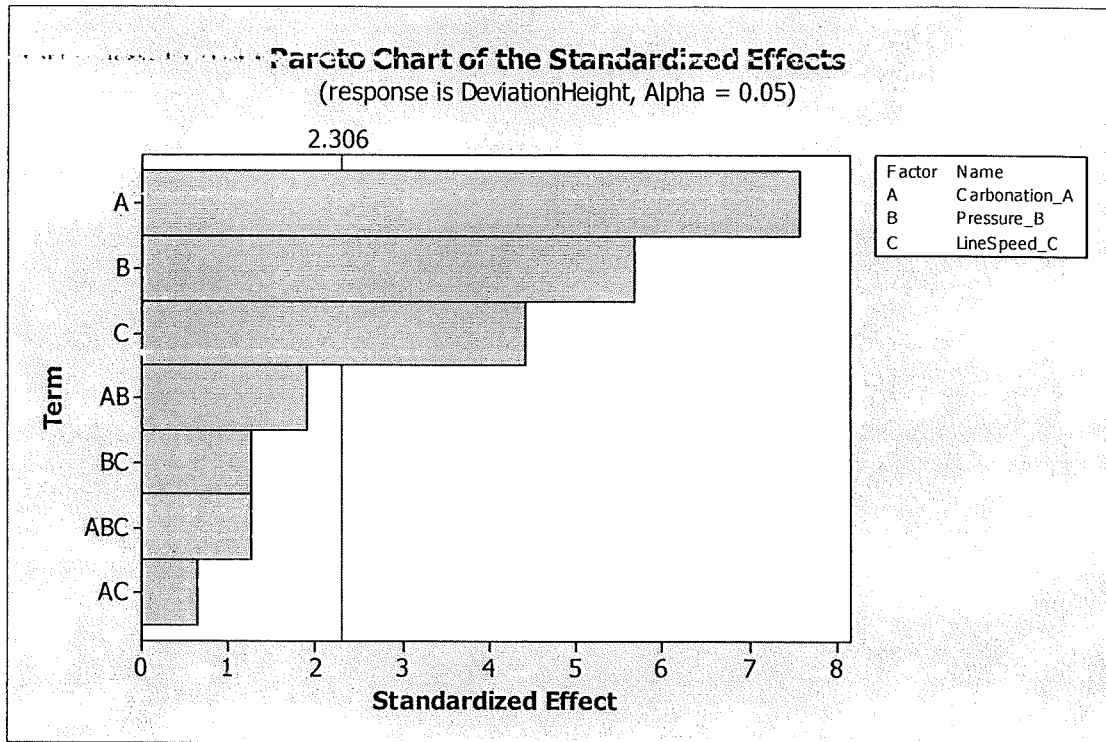

Figure 8: Pareto Chart of the Standardized Effect of Fill Height Deviation
- (i) Which factors significantly affect fill height deviation? Analyze the data from Table 14 dan Figure 8.